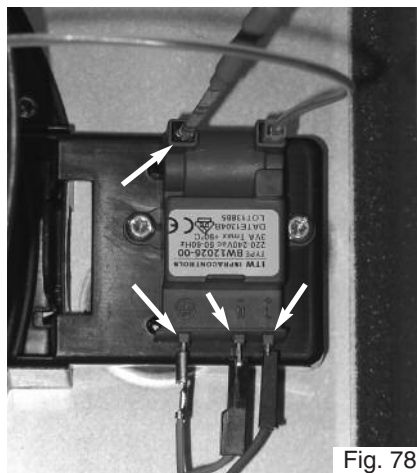

Fig. 78
3. Disconnect the ignition electrode, live, neutral and earth cables from the ignitor. (Fig. 78);